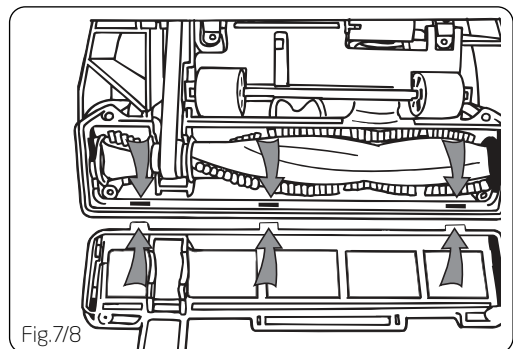

Fig.7/8
Replace all three (3) screws to secure the nozzle guard. Refer to Fig.7/1 for screw positions.